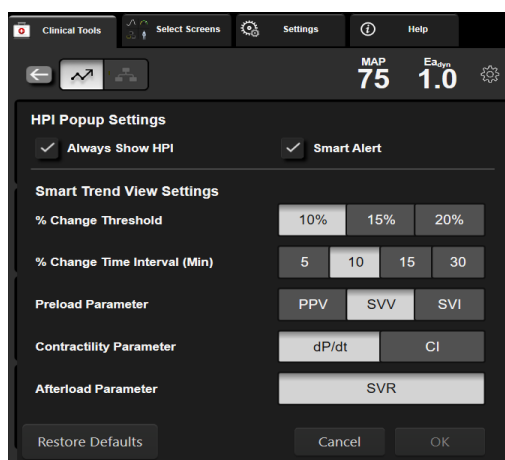

Figure 14-10 HPI secondary screen – smart trend view settings
- 3 Disable the **Always Display HPI** option button. See figure 14-10 on page 269.